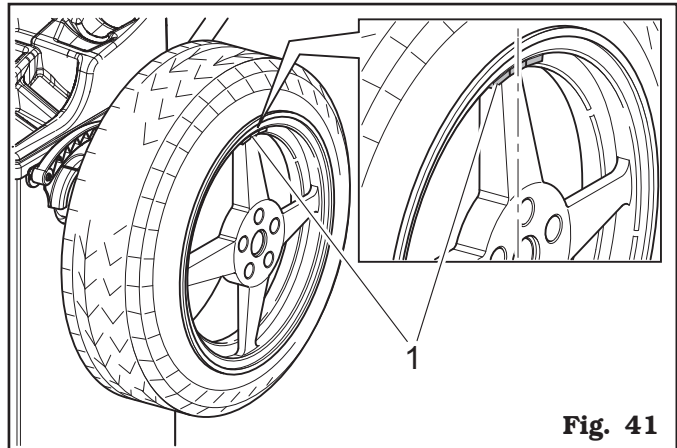

Fig. 41
Fit the adhesive weight on wheel outer side (in the example 25 g). The outer side weight must be positioned **by hand on the vertical – at 12 o'clock** (see Fig. 41 ref. 1).